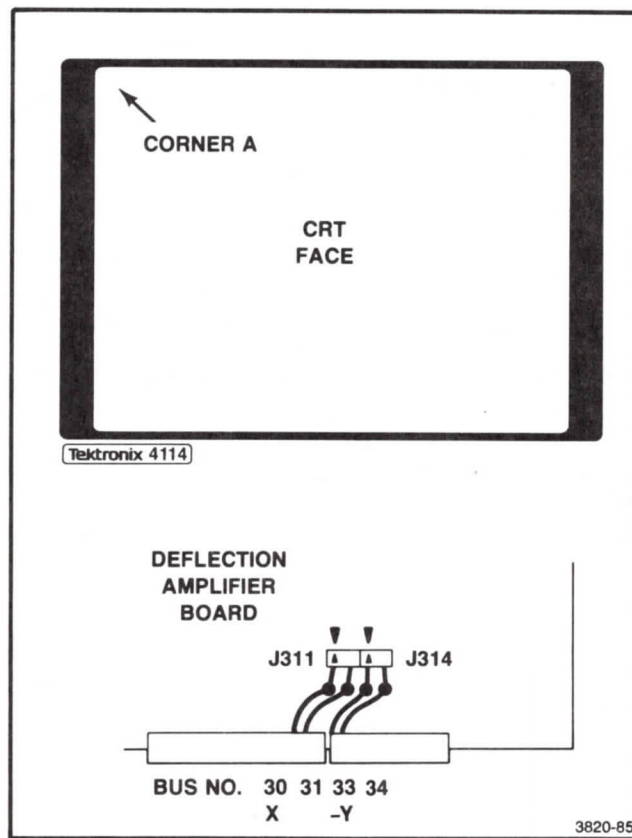

Figure 11-7. Standard Horizontal Format.
11. The connectors on J311 and J314 (Deflection Amplifier board) must now be changed to compensate for the yoke rotation of the crt. See Selecting X and Y Axis inputs, and Figures 11-7 and 11-8.
The deflection inputs can be wired to provide compatibility with the crt configuration. Two 2-pin connectors (J311 and J314) on the Deflection Amplifier board are used. See Figures 11-7 and 11-8 for illustrations of the connector/crt orientation. Corner A represents the starting point for alphanumeric writing in standard (or factory preset) horizontal format. Note the placement of corner A in the two illustrations, and its relation to the settings of J311 and J314. Use the arrows on both the circuit board and the connectors for reference to make the deflection input connector changes.